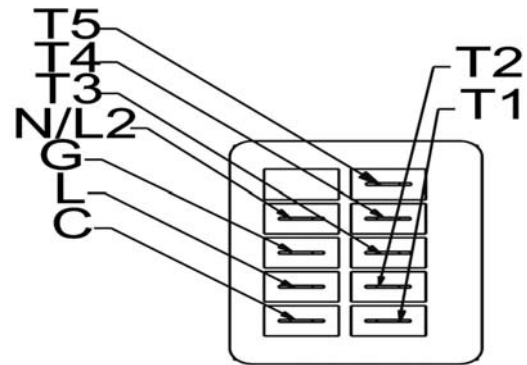

Figure 12: X-13 Motor Terminals
1. If the motor is not running, check for 240 VAC and 24 VAC at the motor terminals. If the 240 VAC and 24 VAC is present at the motor terminals but the motor is not operating, then replace the motor. Refer to Figure 12 and Table 1 for terminal locations and definitions.
- A. If the 240 VAC and 24 VAC is present at the motor terminals but the motor is not operating, then replace the motor. Refer to Figure 12 and Table 1 for terminal locations and definitions.